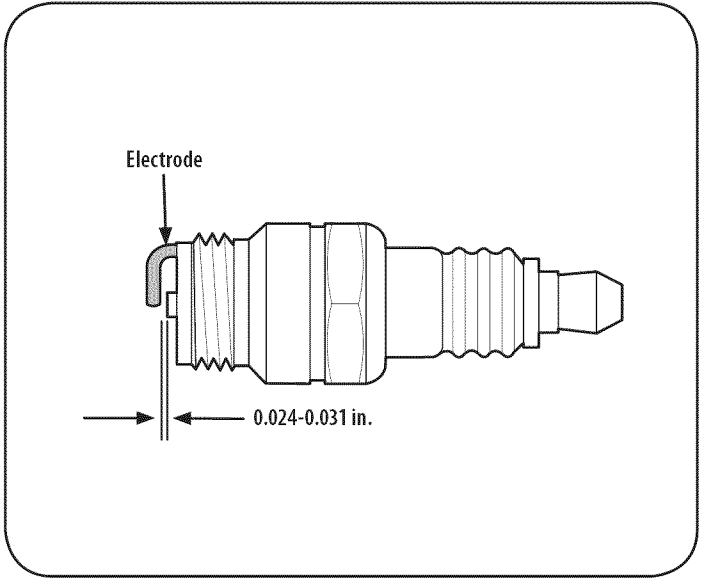

Figure 15
3. Measure the plug gap with a feeler gauge. Correct as necessary by bending side electrode. See Figure 15. The gap should be set to 0.024-0.031 in.